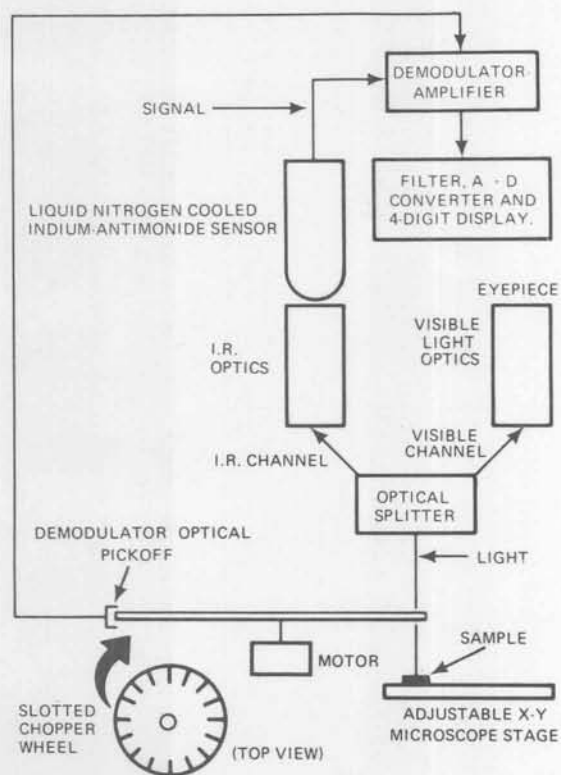

Fig. 11—Noncontact temperature measurements to 0.01°C resolution can be achieved by this IR thermal microscope.
Part 1, the May 5th article, described applications that require noncontact temperature measurements, detailed the infrared (IR) sensors that can be used in such cases and briefly mentioned an IR thermal microscope being developed at M.I.T.'s Nutrition and Food Science Instrumentation Laboratory. Fig. 11 block diagrams that unit. Its 0.01°C resolution and digital display will permit researchers to monitor the progress of cancerous cells across a piece of tissue. The unit can also be used in IC design to determine the exact temperature difference between the input transistors of a low-drift op amp. From this data the optimum thermal layout can be determined.